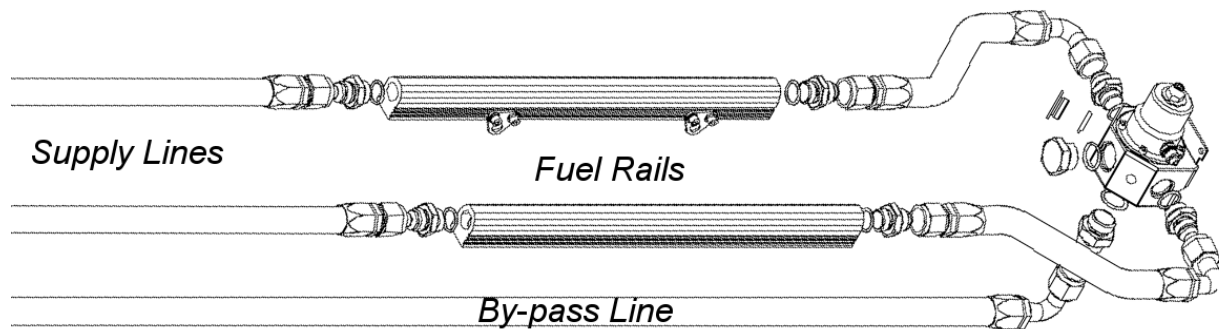

Figure 1.
5. Using a Y-block, split the supply line into two AN-08 lines and feed one side of each fuel rail. From the other end of each fuel rail run an AN-08 line into each of the AN-08 ports on the regulator using the two supplied AN-08 fittings and o-rings (Figure 1).